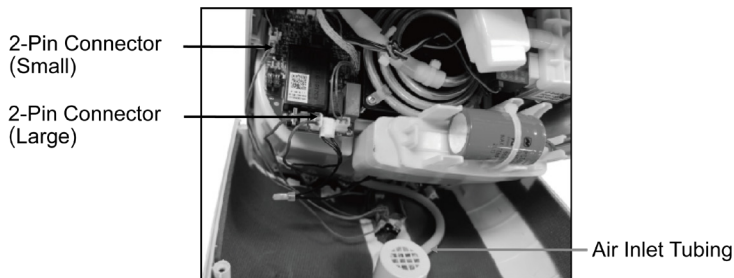

Figure 13 (rear housing)
- Open the cover, pull out the air inlet tubing, disconnect the large and small 2-pin connectors then remove the rear cover. (Figure 13)